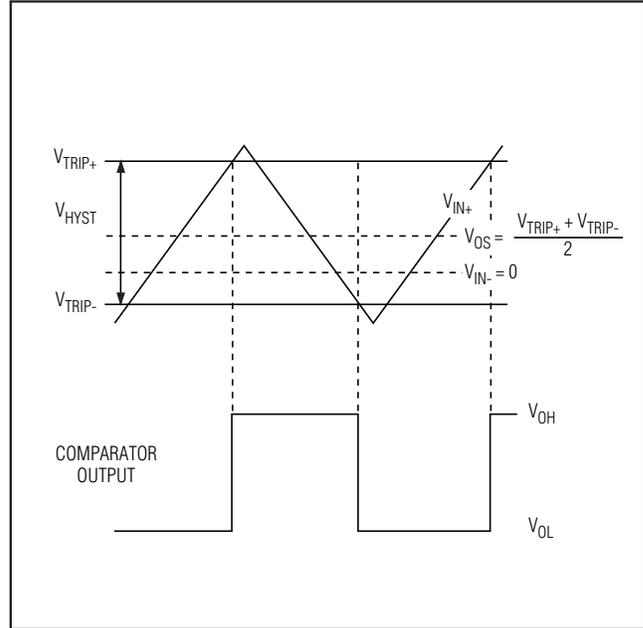

Figure 1. Input and Output Waveform, Noninverting Input Varied
**Note 4:**  $V_{OS}$  is defined as the center of the input-referred hysteresis zone. See Figure 1.
**Note 5:** The input-referred trip points are the extremities of the differential input voltage required to make the comparator output change state. The difference between the upper and lower trip points is equal to the width of the input-referred hysteresis zone. See Figure 1.
The hysteresis in a comparator creates two trip points: one for the rising input voltage and one for the falling input voltage (Figure 1). The difference between the trip points is the hysteresis. The average of the trip points is the offset voltage. When the comparator's input voltages are equal, the hysteresis effectively causes one comparator input voltage to move quickly past the other, thus taking the input out of the region where oscillation occurs. Standard comparators require hysteresis to be added with external resistors. The MAX9140/MAX9141/MAX9142/MAX9144's fixed internal hysteresis eliminates these resistors. To increase hysteresis and noise margin even more, add positive feedback with two resistors as a voltage divider from the output to the noninverting input.
Figure 1 illustrates the case where IN- is fixed and IN+ is varied. If the inputs were reversed, the figure would look the same, except the output would be inverted.